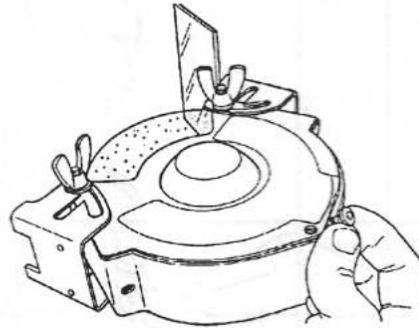

Fig. 17
18. Thread a button head cap screw (22) through the guard cover and into the guard. See Fig. 17.